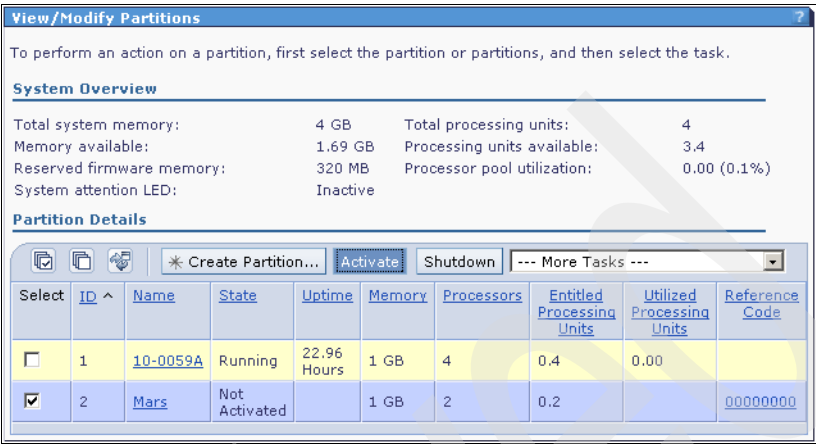

Figure 4-27 Activate a partition
1. To activate the partition, click the check box of the partition and click **Activate**. See Figure 4-27.